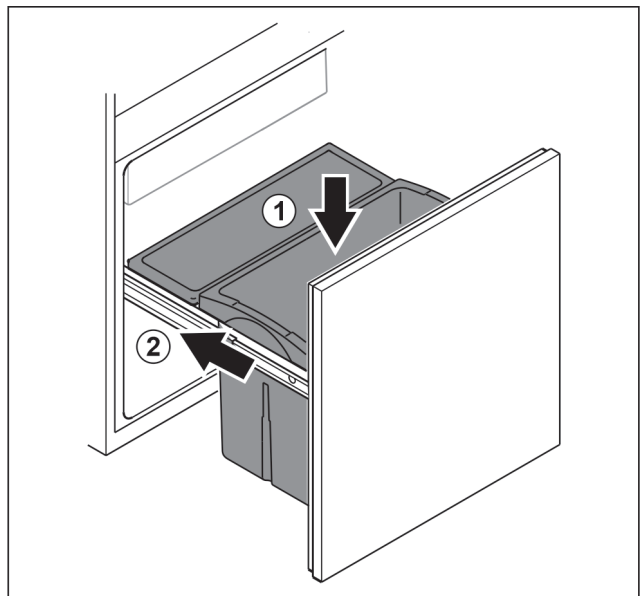

Fig. 99
- ▶ Insert drawer from above. *Fig. 99 (1)*
- ▶ Slide in pull-out unit. *Fig. 99 (2)*